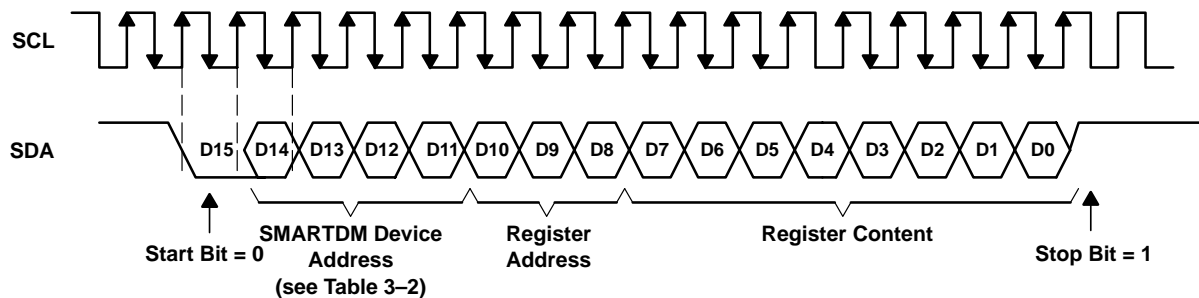

Figure 3–10. S²C Programming
2. Write data to program control register as specified in Figure 3–10 with bits D14–D11 = XXXX (don't care).